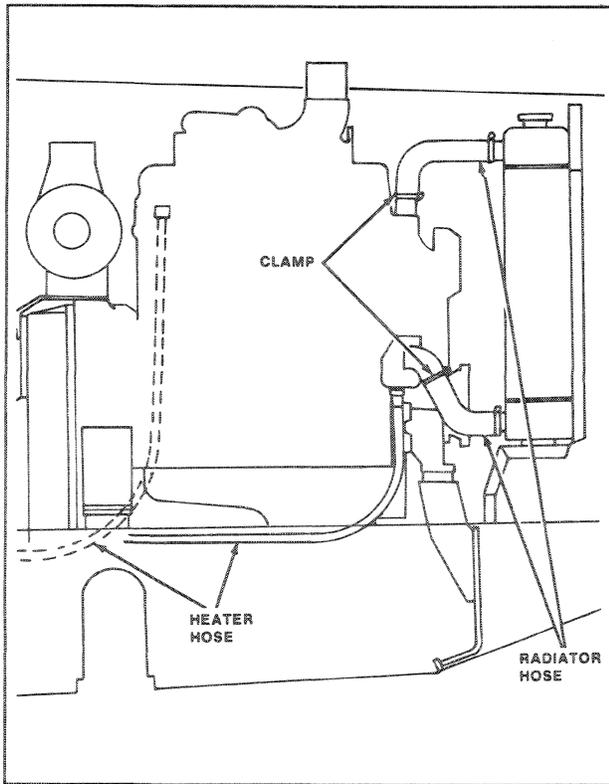

FIGURE 2-7: Radiator and Heater Hoses
10. Loosen clamps securing upper and lower radiator hoses and heater pressure and return hoses. Disconnect hoses from engine and label (Figure 2-7).
12. Connect heater pressure and return hoses and upper and lower radiator hoses. Do not overtighten hose clamps (Figure 2-7).